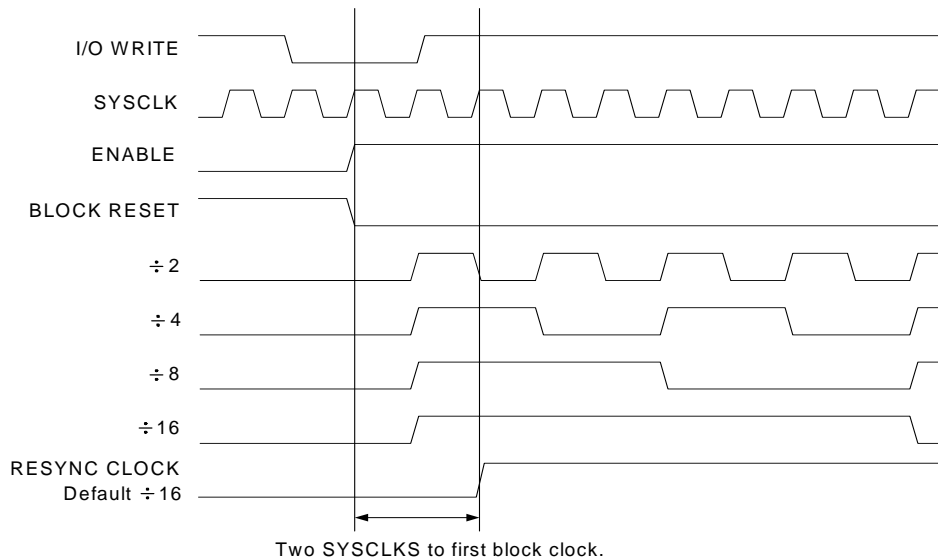

Figure 26-4. I2C Input Clocking
**Bit 0: Enable Slave.** When the Slave is enabled, the block generates an interrupt on any Start condition and an address byte that it receives, which indicates the beginning of an I2C transfer. When operating as a Slave, the block is clocked from an external Master and therefore, will work at any frequency up to the maximum defined by the currently selected Clock Rate. The internal clock is only used in Slave mode to ensure that there is adequate setup time from data output to the next clock on the release of a Slave stall. When the Enable Slave and Enable Master bits are both '0', the block is held in reset and all status is cleared. See Figure 26-4 for a description of the interaction between the Master/Slave Enable bits. Block enable will be synchronized to the SYSCLK clock input (see “Timing Diagrams” on page 270).
Figure 26-4 illustrates the I2C input clocking scheme. The SYSCLK pin is an input into a four-stage ripple divider that provides the baud rate selections. When the block is disabled, all internal state is held in a reset state. When either the Master or Slave Enable bits in the I2C\_CFG register are set, the reset is synchronously released and the clock generation is enabled. Two taps from the ripple divider are selectable ( $/4$ ,  $/16$ ) from the Clock Rate bits in the I2C\_CFG register. As an additional option, the block may be clocked directly from SYSCLK, to achieve the highest baud rate. If any of the two divider taps is selected, that clock is resynchronized to SYSCLK. The resulting clock is routed to all of the synchronous elements in the design.